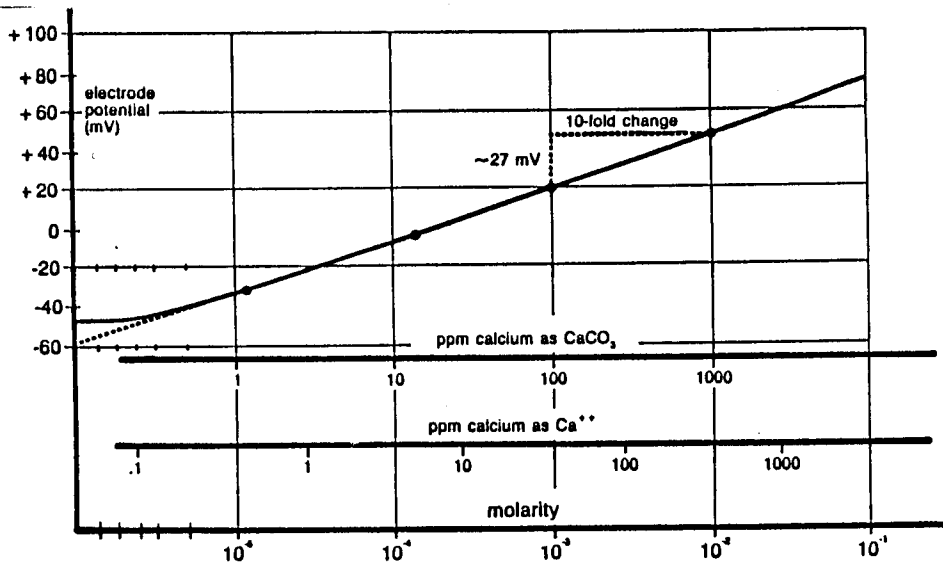

Figure 3-1. Typical Calcium Electrode Calibration Curve
5. Using the semi-logarithmic graph paper, plot the mV reading (linear axis) against the concentration (log axis). A typical calibration curve can be found in Figure 3-1.
8. On semi-logarithmic graph paper, plot the mV reading (linear axis) against the concentration (log axis) as in Figure 3-1.